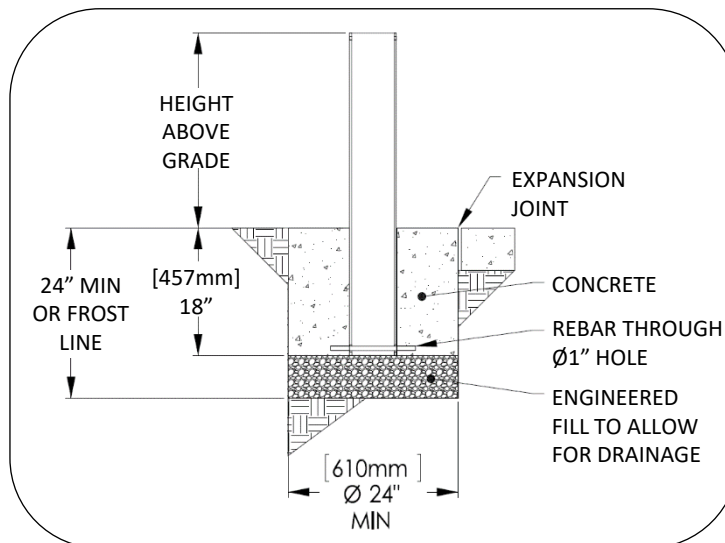
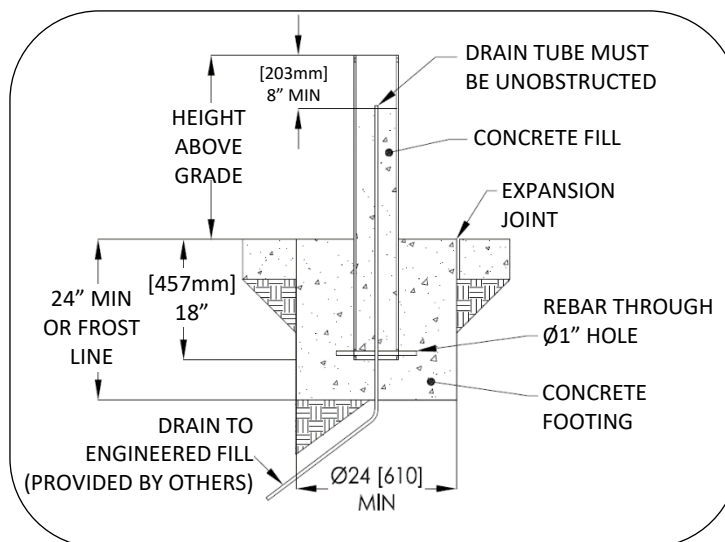

FIG. 2 - FOOTING DETAIL FOR EMBEDDED BOLLARD WITH NO LIGHT OR SOLAR LIGHT
FIG. 3 - ALT FOOTING FOR EMBEDDED BOLLARD WITH INTERNAL CONCRETE FOR MINIMUM SECURITY
2. Embed bollard tube in a concrete footing that meets local frost conditions. Be sure to allow for proper drainage. See Fig. 2 and Fig. 3.